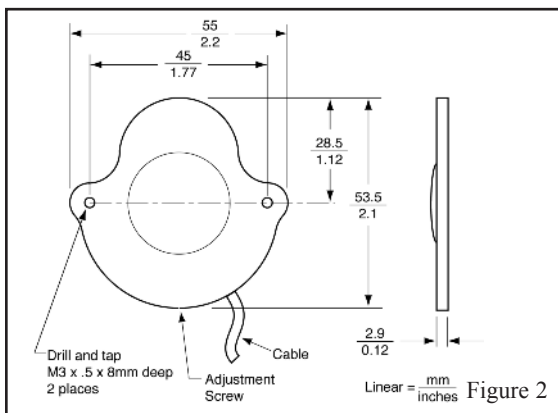

Figure 2
- Drill and tap two mounting holes M3 x .5 x 8mm deep in the location of the switch or the mounting clip depending on your installation. (See Figures 2 and 5)
- The actuation height of the switch is adjusted by turning the set screw with included hex key (see Figures 2 and 3).